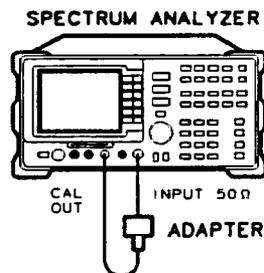

Figure 4-11. Resolution Bandwidth Switching Uncertainty Test Setup
1. Connect the CAL OUT to the spectrum analyzer input using the BNC cable and adapter, as shown in Figure 4-11.